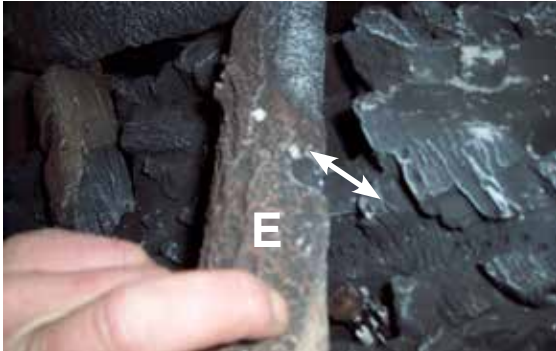

Figure 92: Log F Locator
- 7) Identify locator on Log E and opposing Locator on the Ceramic Log Burner as shown in Figure 92. Place Log E gently on Burner.
- 10) Identify locator on Log H and opposing Locator on Log B as shown in Figure 92. Place Log H gently on Log B.